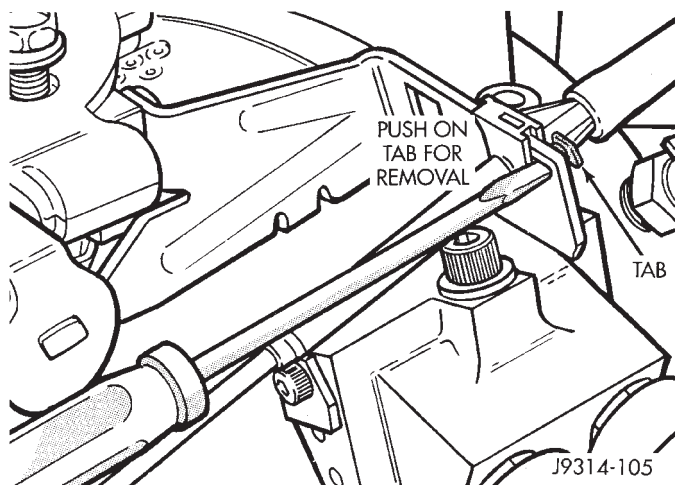

Fig. 41 Cable Release Tab—5.2L Engines—Typical
(6) 4.0L Engine: Remove throttle cable from throttle body mounting bracket by compressing retainer tabs and pushing cable through hole in bracket. Remove throttle cable from vehicle.
(7) 5.2L Engine: Remove cable housing at throttle body mounting bracket by pressing forward on release tab with a small screwdriver (Fig. 41). **To prevent cable housing breakage, press on the tab only enough to release the cable from the**